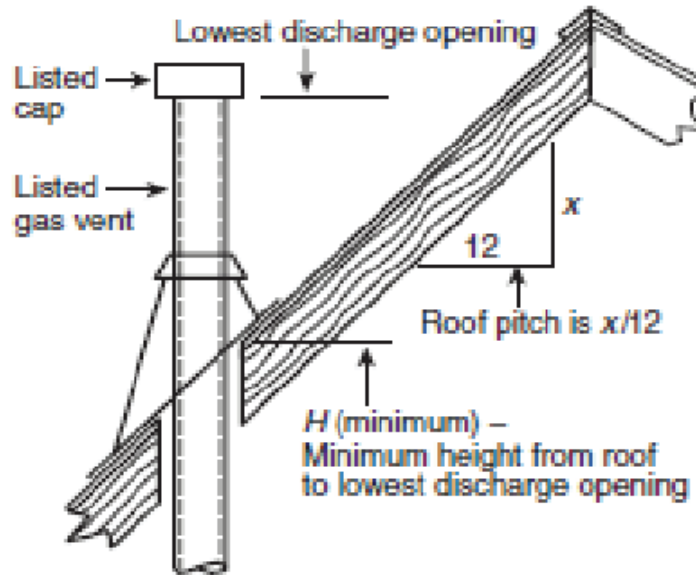

Figure 8. Roof Slope and Pitch
- a. For double-wall vent pipe and a horizontal distance to any vertical wall or similar obstruction of 8 feet or greater, the vent must terminate above the roof in accordance with Figure 8 and Table 8.
*See Figure 8 . Termination locations for gas vents with listed caps 12 inches (300 mm) or less in size at least 8 inches (2.4 meters) from a vertical wall.